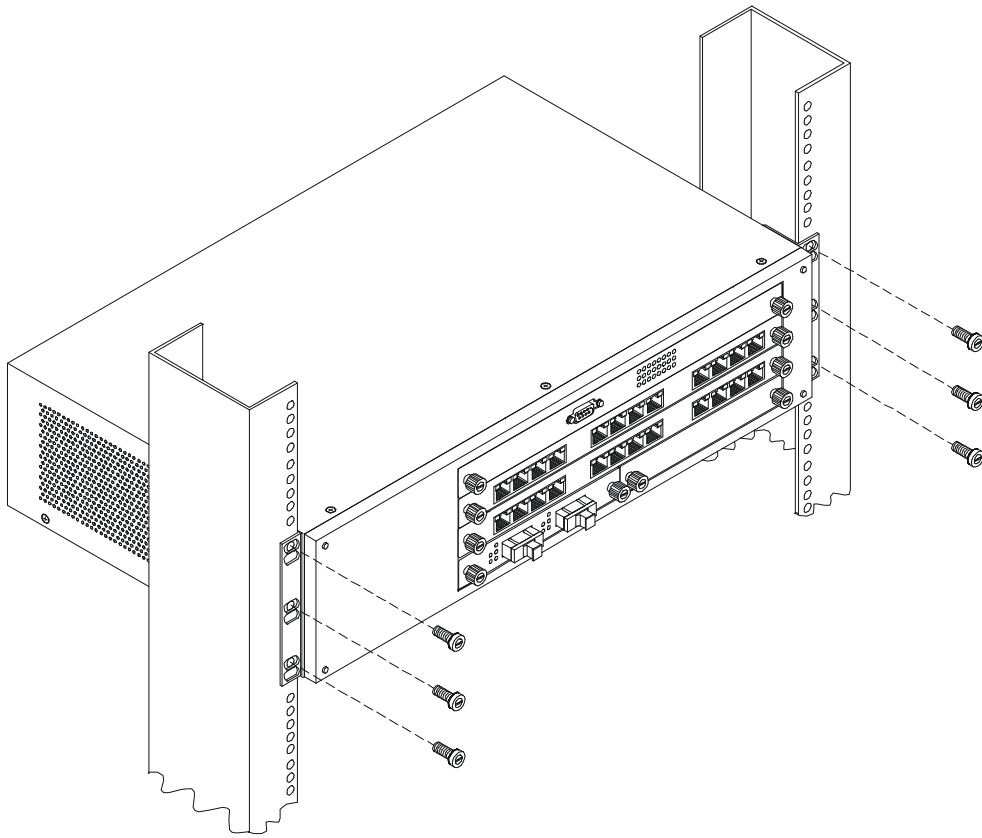

Figure 6: Insert into Rack
2. Slide the DES-5024 into the rack and use the screws provided to secure the DES-5024 to the rack. See Figure 6.